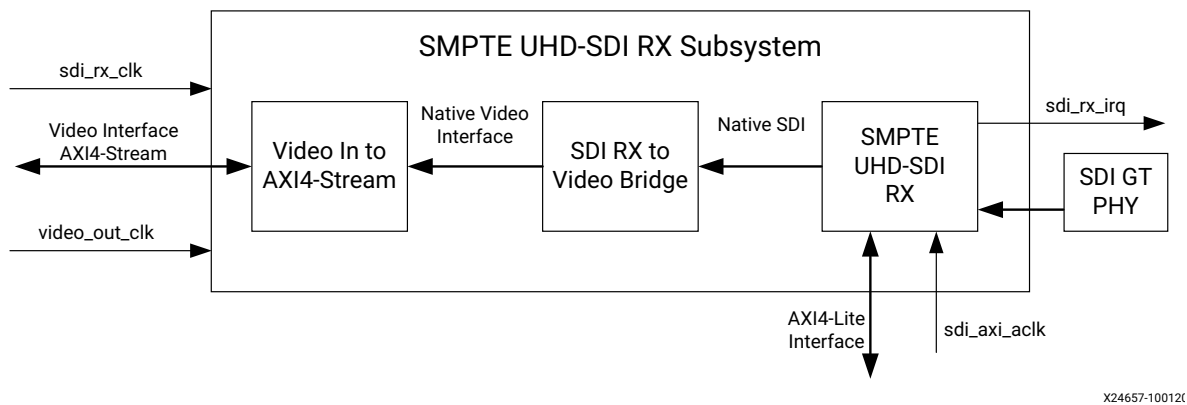

Figure 1-1: SMPTE UHD-SDI RX Subsystem AXI4-Stream Architecture
The SMPTE UHD-SDI Receiver (RX) Subsystem allows you to quickly create systems based on SMPTE SDI protocols. It receives unaligned native SDI streams from the UHD-SDI GT [Ref 18] and outputs an AXI4-Stream video stream, native video, or native SDI using Xilinx® transceivers as the physical layer. The top-level customization parameters select the required hardware blocks required to build the subsystem. Figure 1-1 shows the subsystem architecture using the AXI4-Stream user interface. The SMPTE UHD-SDI (RX) IP core, SDI RX to Video Bridge IP core and Video In to AXI4-Stream are present in the subsystem and the subsystem outputs AXI4-Stream.